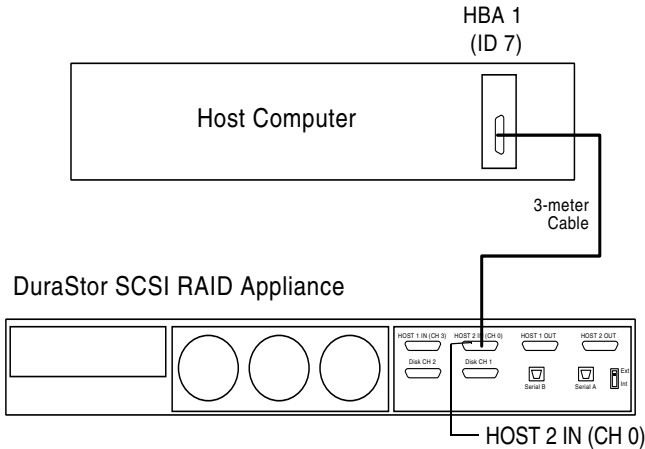

Figure 3-16 Stand-alone Single-port Cabling Diagram
- 1 Connect the SCSI data cables as shown in Figure 3-16.